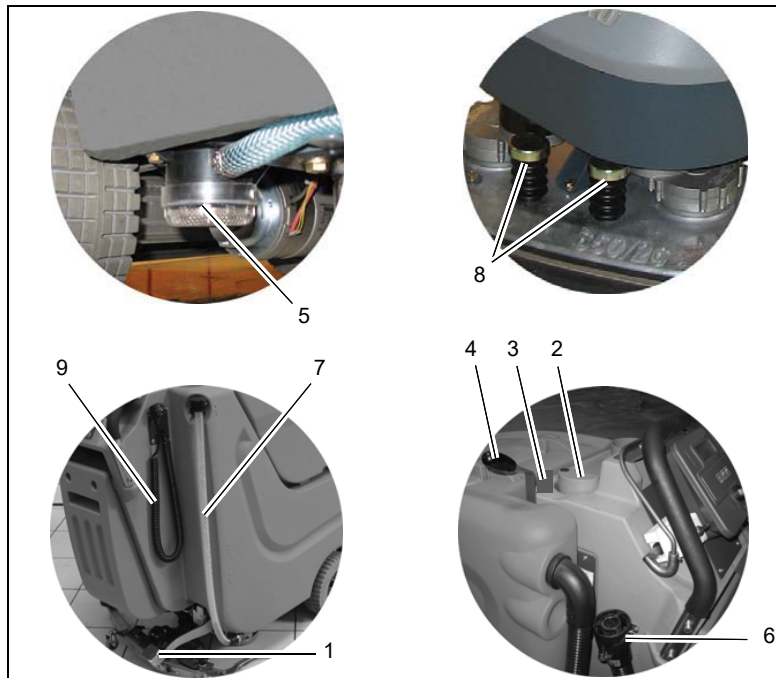

Fig.5
2. Use hand lever (Fig. 5/3) to lower squeegee. Vacuum motor turns on automatically.
5. Use pedal (Fig. 5/9) to lower brush head.
6. Use forward/reverse lever (Fig. 5/1) to adjust speed and direction. Increase the scrub brush pressure if required with pedal (Fig. 5/10) .
Brush deck pedal (Fig. 5/1)
Opening of solution tank (Fig.5/2)
Solution control (Fig. 5/3)
Squeegee Lever (Fig. 5/4)
Solution tank filter (Fig. 5/5)
Recovery tank drain hose (Fig. 5/6)
Solution tank drain hose (Fig.5/7)
Brush ejector (Fig. 5/8)
Power cord for charger (Fig. 5/9)